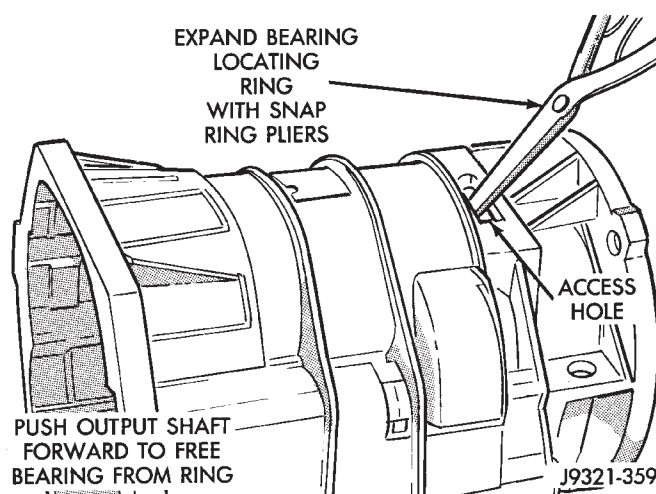

Fig. 61 Seating Locating Ring In Rear Bearing
(9) Expand front bearing locating ring with snap ring pliers (Fig. 61). Then slide case downward until locating ring locks in bearing groove and release snap ring.